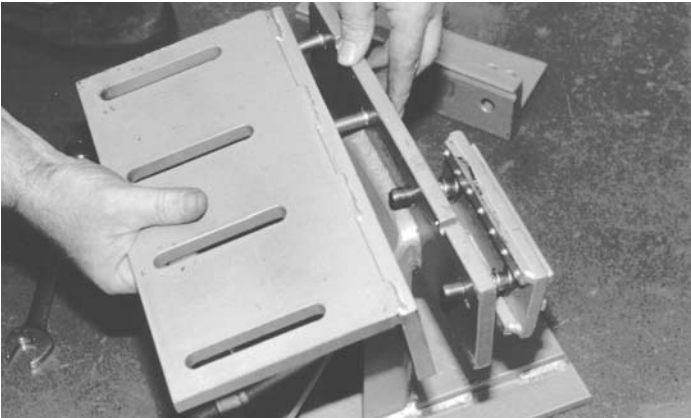

Figure 6
3. Observe front corner of center section and determine which Anchoring Stand clamp will secure the vertical jack tab. Then remove the other clamp and install the Adapter Plate to back of Anchoring Stand using appropriate bolts, nuts and washers. Figure 6 shows the application for the vehicle illustrated in this manual.